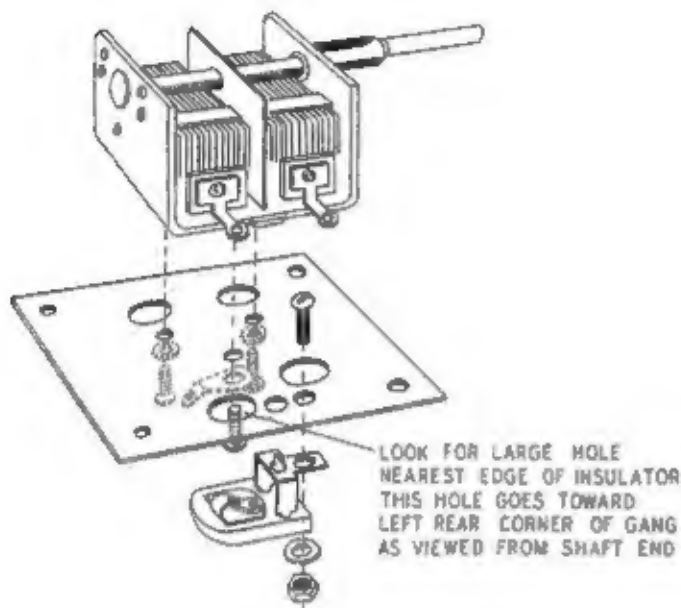

Fig. 3
- () 8. Lay the chassis aside temporarily and assemble the variable condenser sub-assembly. Position the insulator plate as shown in Figure 3. Mount the condenser to the plate using 6-32 hardware. Don't forget the solder lug used under one of the screws. Then mount the ceramic trimmer below the plate. Be sure the positioning lug on the trimmer is fully inserted in the small hole before tightening the screw.